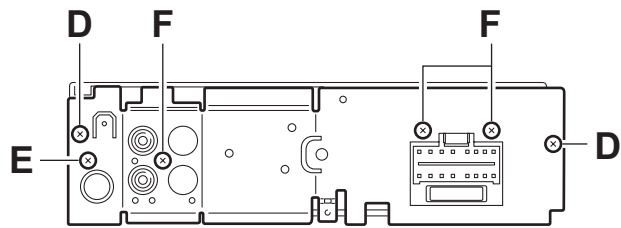

Fig.5
3.1.5 Removing the rear panel (See Fig.5)